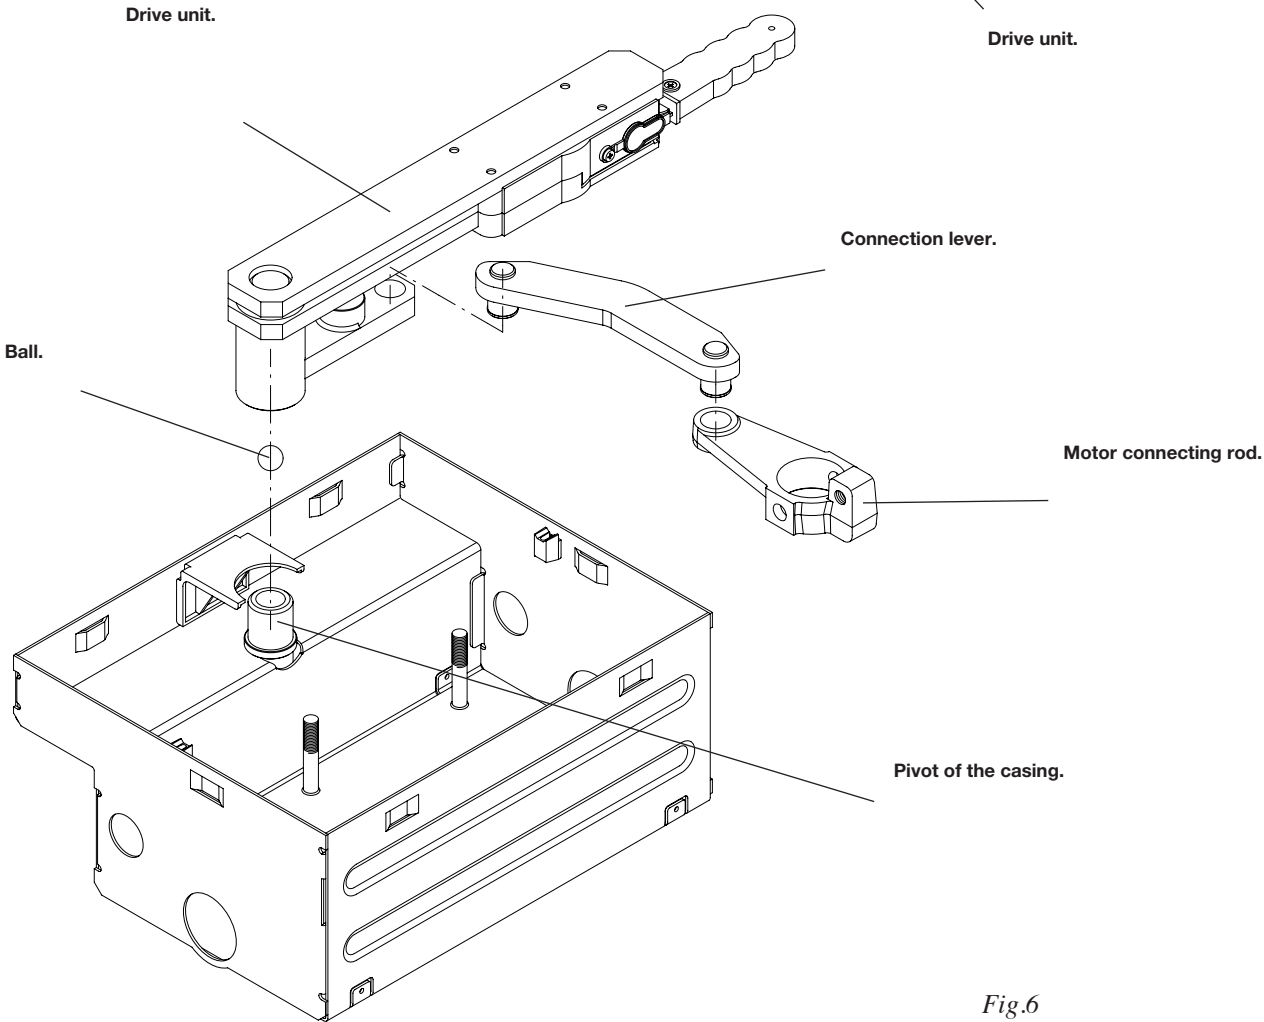

Fig.6
- 5 Position the gate wing in the special niche, making sure that the ball is positioned between the pivot of the foundation casing and the drive unit. Then link the drive unit to the motor connecting rod through the special link bar (Fig. 6).